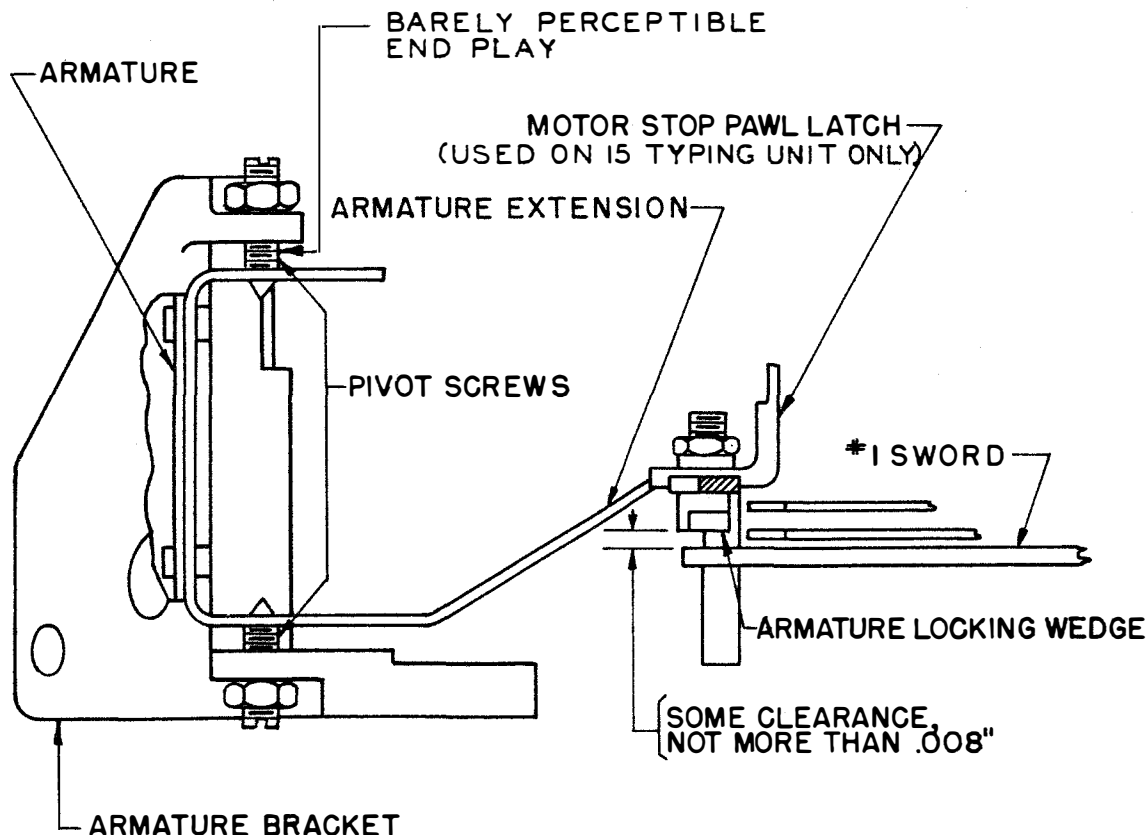

Figure 14
2.17 Armature (pulling magnet) should have a minimum amount of endplay, without bind in its bearings, gauged by eye and feel, and its locking wedge should clear the No. 1* sword by not more than 0.008 inch as indicated in Figure 14 when the No. 1* selector lever rests on peak of its cam, the No. 1* sword front arm is held against outer separator plate without bending the separator plate and the armature endplay taken up to reduce the clearance to minimum.
Note: When making this adjustment on typing units equipped with a mechanical motor-stop mechanism, set the motor stop-pawl latch so that the shoulder of the latch is against the front face of the armature extension. (See Figure 14.)